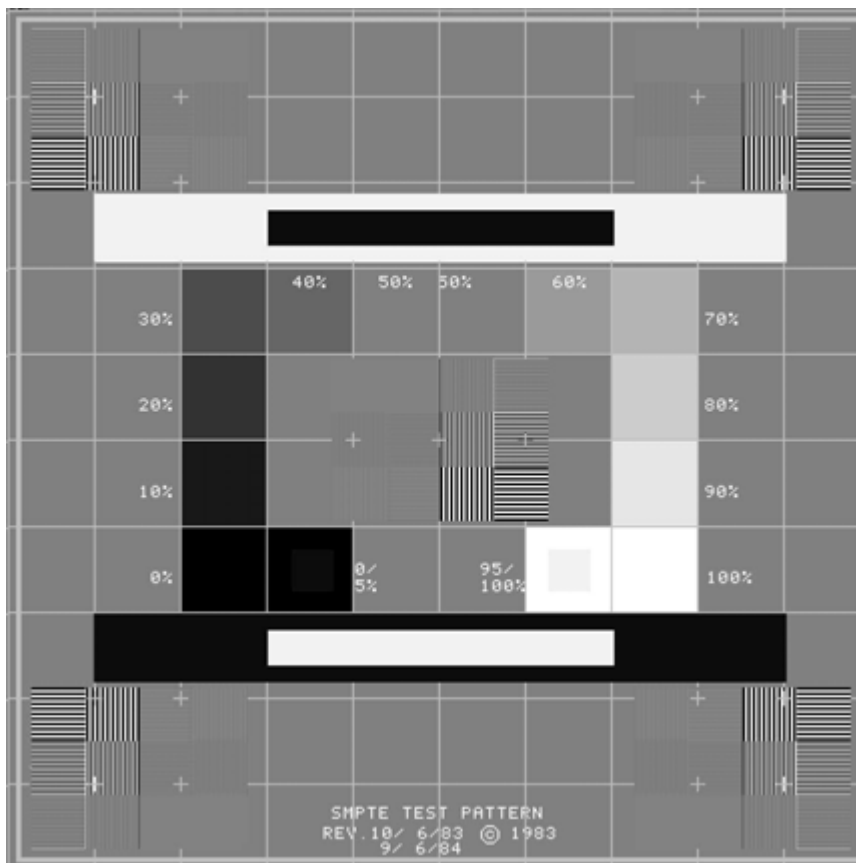

Fig. 2: SMPTE\_1k\_.....BMP
- Measure the density values in 11 gray levels in the SMPTE test image (Fig. 2 / p. 16) (for each film size).
4. Measure SMPTE test image (Fig. 2 / p. 16) and verify the CR (LUT) using the "Density values" table